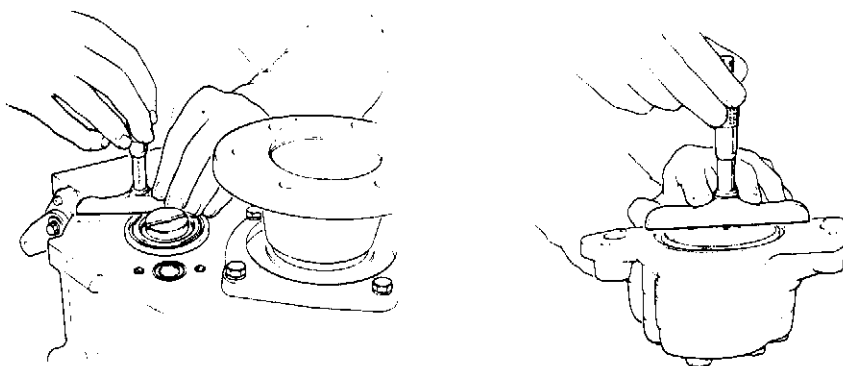

Fig. 15 Shimming procedure
1. Press the bearing outer cup firmly into position and measure between the face of the gearcase and the top of the bearing outer as shown in Fig. 15.